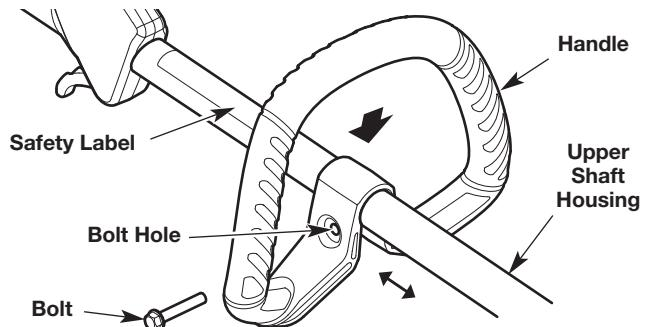

Fig. 6
1. Push the handle down onto the upper shaft housing (Fig. 6). Make sure the bolt hole faces to the right (Fig. 6).
2. Insert the bolt into the bolt hole and push it through (Fig. 6). Tighten the bolt with a flat-head screwdriver, but do not tighten the bolt completely.
3. Hold the unit in the operating position (Fig. 19). Move the handle up or down the upper shaft housing to a comfortable location (Fig. 6). Make sure the handle is positioned beyond the end of the safety label (Fig. 6).
1. Loosen the bolt with a flat-head screwdriver (Fig. 6).
2. Hold the unit in the operating position (Fig. 19). Move the handle up or down the upper shaft housing to a comfortable location (Fig. 6). Make sure the handle is positioned beyond the end of the safety label (Fig. 6).